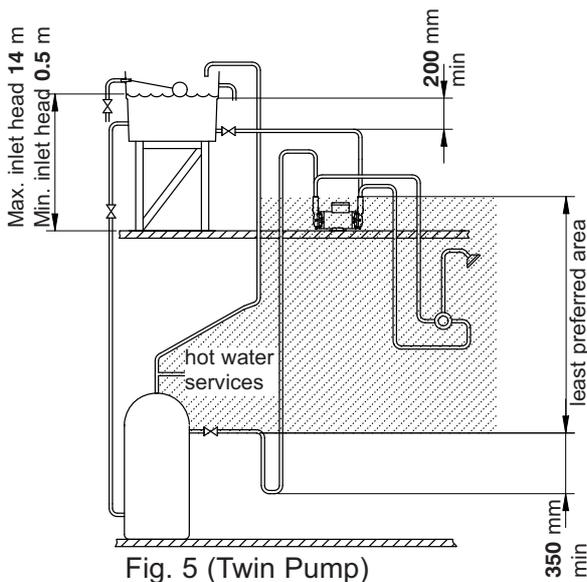
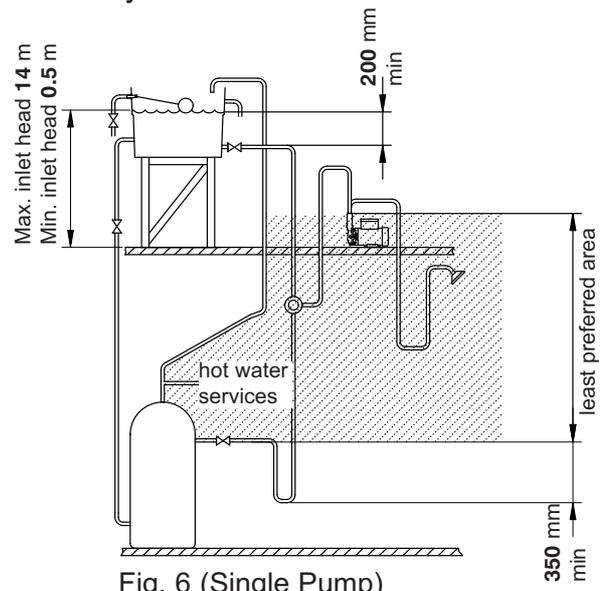

Fig. 5 (Twin Pump)
Fig. 6 (Single Pump)
- 1) A "U" bend or downward loop in the supply pipe to the pump of 350 mm depth before rising to the pump should ensure the cylinder vents its air up the expansion pipe not up the pump feed (Fig. 5 for Twins and Fig. 6 for Singles).